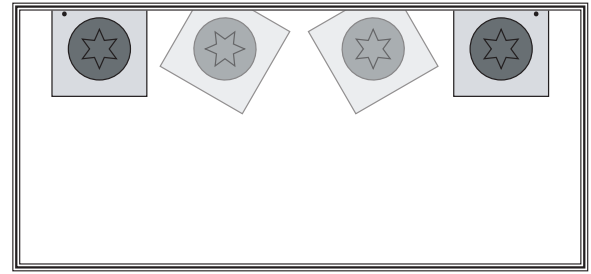

Figure 28. Insert rotating sequence.
6. Rotate insert 90° and install so that a fresh cutting edge faces outward (see **Figure 28**).